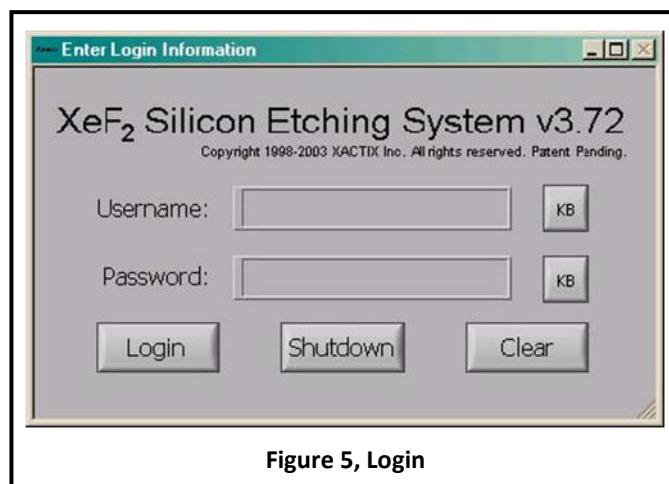

Figure 5, Login
6.2.1 Enter labuser for the user name and password. See *Figure 5, Login*.